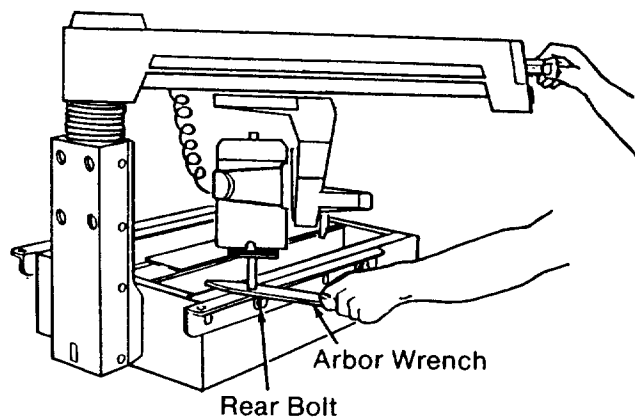

Fig. 56
6. Turn the *motor* until the *arbor shaft* is pointing straight down toward the *saw*. (Figure 56)
9. Unlock the *rip lock* and move the *motor* until the *arbor shaft* is over the rear bolt on the left *table support*. (Figure 56)
11. Place the handle end of the *arbor wrench* over this point and lower the *arm* until the *arbor shaft* is just touching the *wrench*. The *wrench* should slide back and forth with slight contact. (Figure 56)